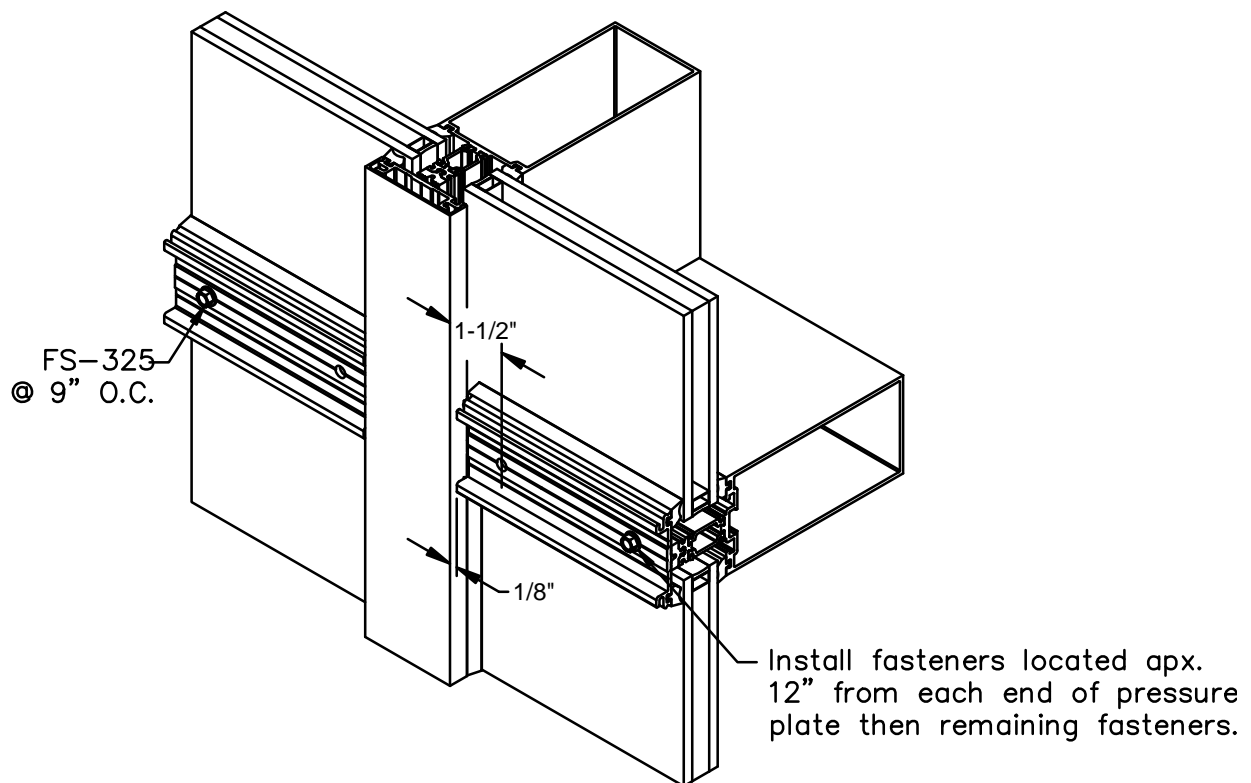

FIGURE 25
- 3.10 Pressure plate fasteners must be located 1 1/2" from each end to maintain proper compression. Drill 7/32" diameter holes as required. See FIGURE 25
- 3.12 Install horizontal pressure plates using FS-325 (#12-24 x 1-1/2" HWH Drill Flex) by attaching using holes approximately 12" from each end first. Torque fasteners to apx. 70 in/lbs. Then install all other fasteners, locate at 9" on center. SEE FIGURE 25